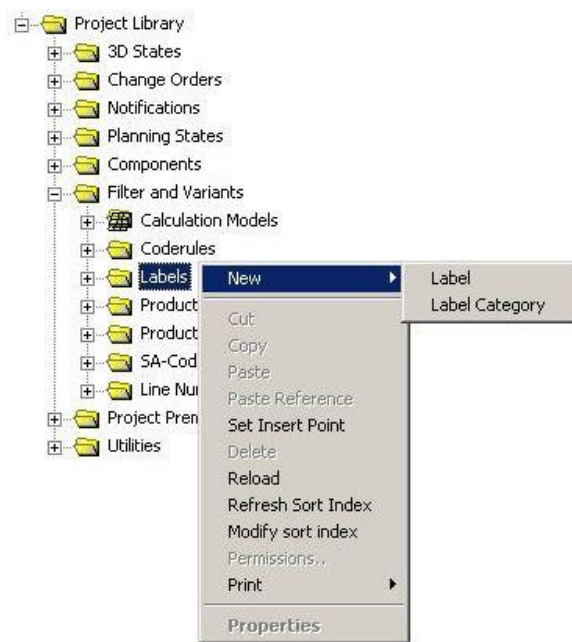

Figure 75: Creating New Labels and Label Categories
- 1) Open the project library and select under filter and versions the **Label** entry. Select **New** in the context menu and then select the object, which you want to create. *Please refer to the Figure 75.*
A label is created in the project library. Please refer to the Figure 75.
Like the label, a new label category is created with the context menu in the project library. Please refer to the Figure 75.